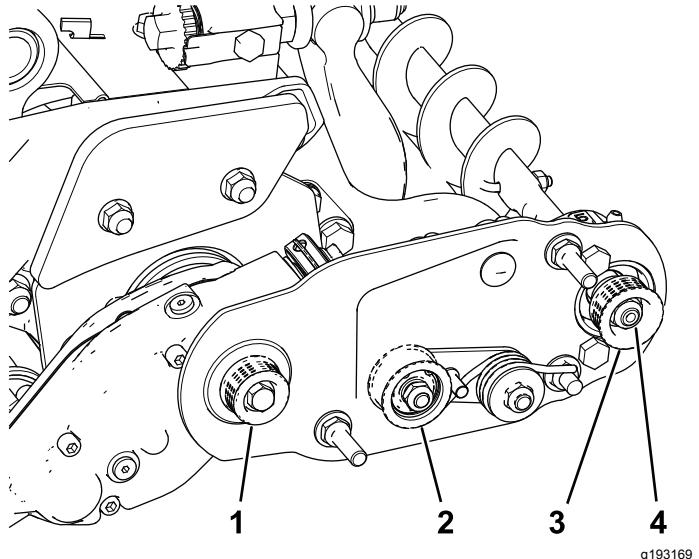
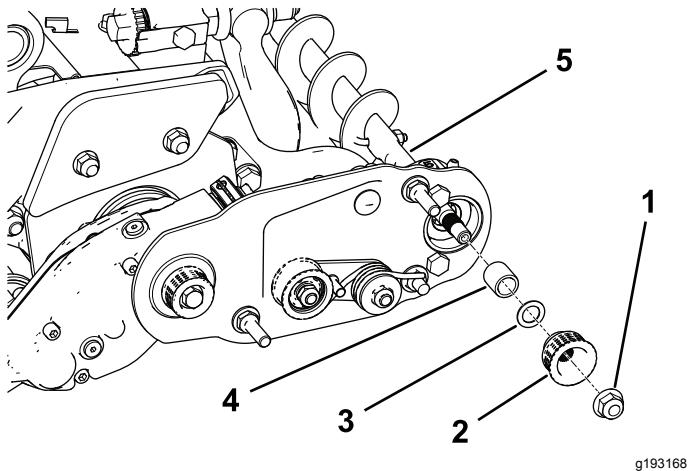

Figure 22
Figure 23
1. The driven pulley (at the roller-brush shaft) can move in or out (Figure 22).
2. While rotating the reel, which rotates the drive pulley, pry the belt off the drive pulley (Figure 22).
3. Remove the locknut securing the driven pulley to the brush shaft (Figure 22 or Figure 23).
4. Remove the driven pulley from the shaft (Figure 23).
5. If the pulley needs to move out, add a 0.8 mm (0.032 inch) thick washer (Figure 23).
6. Install the pulley as shown in Figure 23.